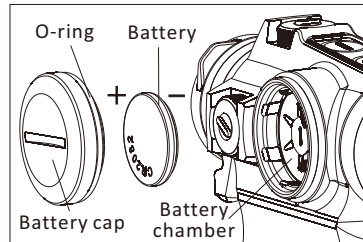

Fig3-2
Battery Installation(Fig3-2):
- 2) Insert the battery into the battery chamber with the right marked polarities "+" "-", See Fig3-2, Take the waste battery out for replacement.